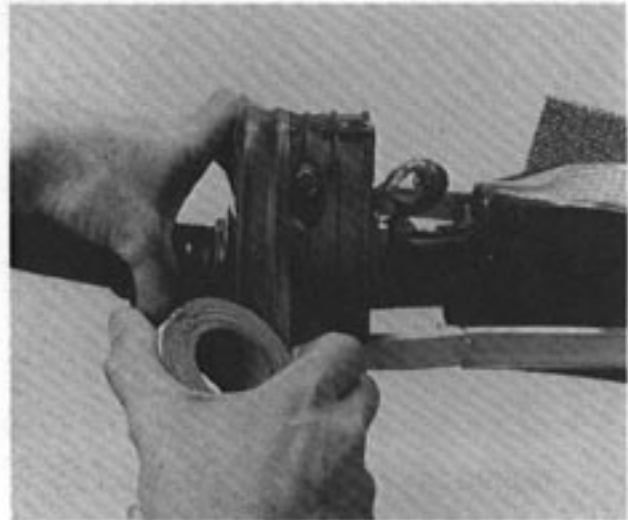

FIGURE 30 - LOCK-TAPE SEALANT APPLICATION OVER END PLATES
10.01 Apply one 1-1/2" (3.81 cm) LOCK-TAPE™ Sealant wrap over the End Plates, around the outside three rings. Stretch LOCK-TAPE Sealant strip as you apply it around the End Plates (Figure 30). See PLP TIP 7.02.